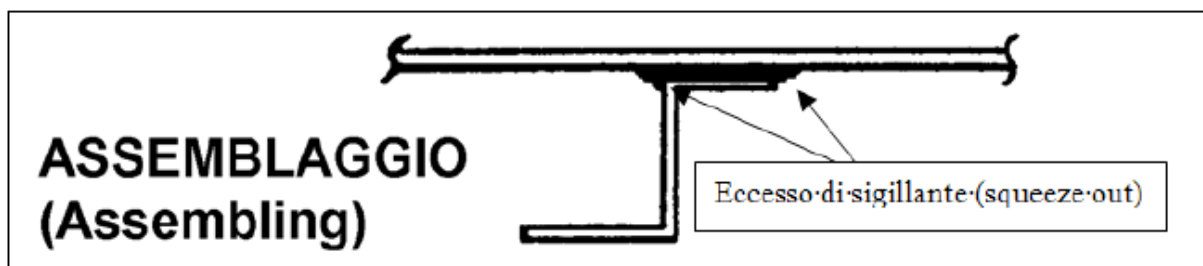
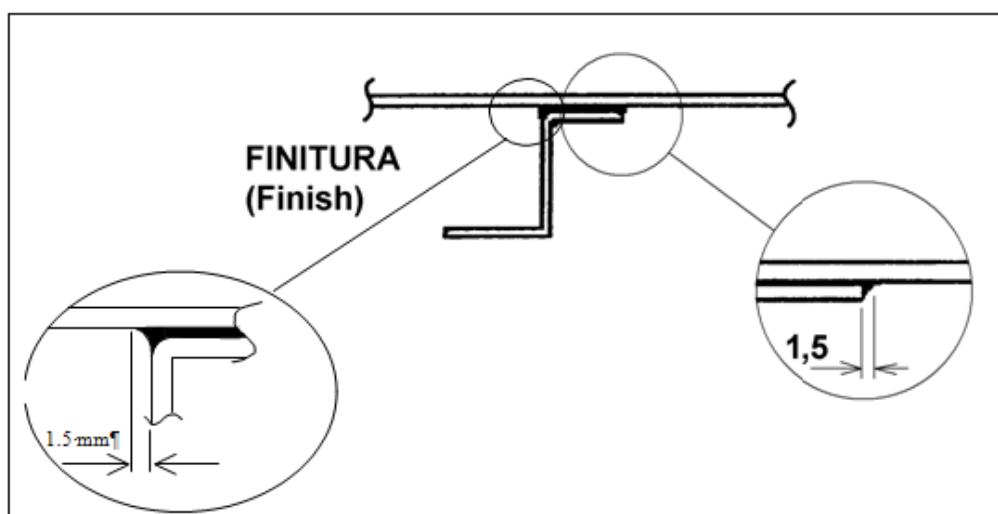
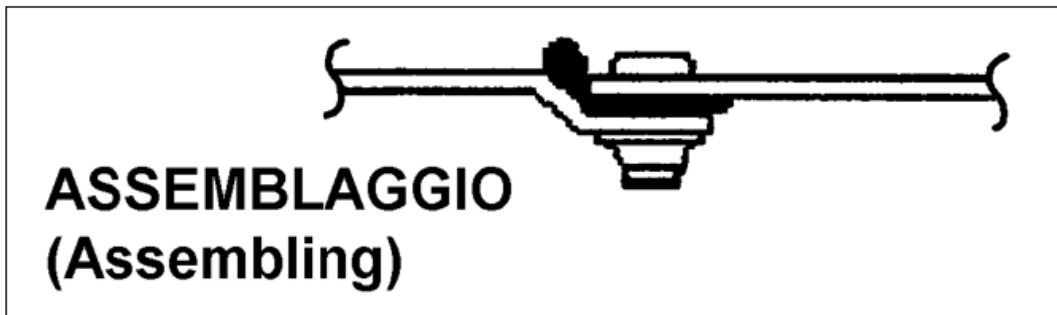

Figure 4: Check that the squeeze out of sealant is uniform along the edge, visible and enough to allow the correct final finishing of the sealing
Figure 5: Final finishing of the sealing
Figure 7: Check that the squeeze out of sealant is uniform along the edge, visible and enough to allow the correct final finishing of the sealing
4. Exceeding sealant squeeze out from edge shall be visible and constant (Figure 4 and Figure 7); remove squeeze out sealant by means of a suitable plexiglass or wood spatula (Figure 5 and Figure 8).